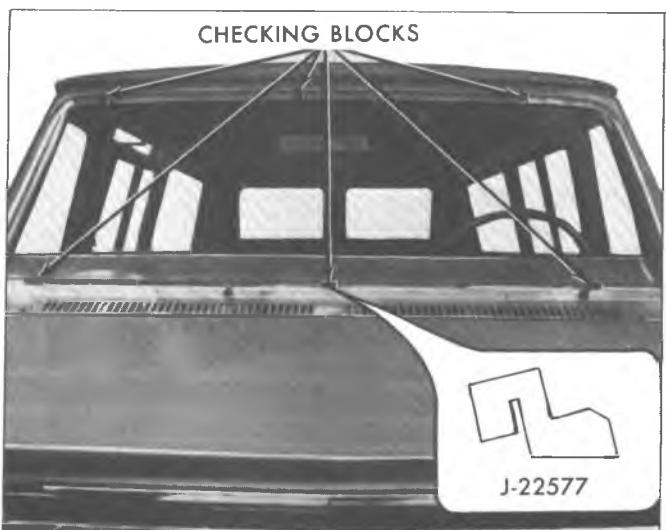

Fig. 8G—Checking Windshield Opening
4. Check windshield glass to opening, by supporting glass with six spacers contained in packet J-22577, as shown in figure 8G.
NOTE: It is necessary to modify the spacers by cutting off $3/16"$ from the back of the spacer with a knife, as shown in figure 8G.